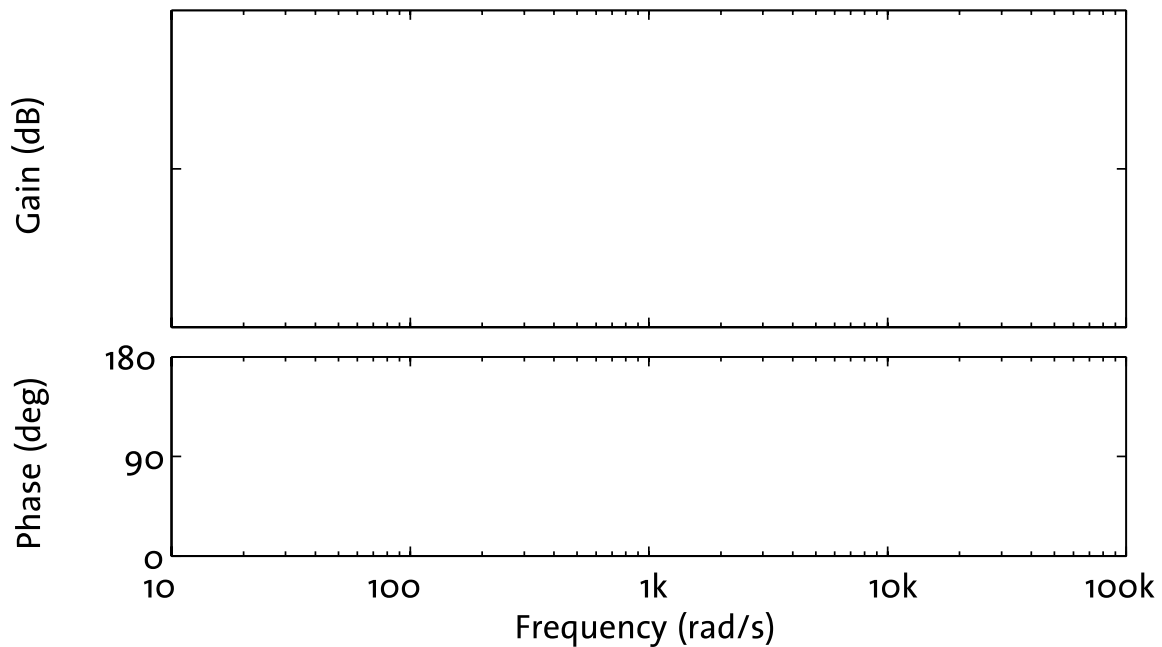

Figure 1.8: Gain and phase response for the integrator circuit shown in Fig. 1.7.
Measure the gain and phase response of your integrator over a handful of frequencies, and record the results in Fig. 1.8. Note that the behaviour of the integrator is uniform for all frequencies, i.e. the trends in gain and phase that you see at one frequency, say 10 krad/s, are equally valid at another frequency, say 100 rad/s.
- Based on Fig. 1.8 and your earlier calculations, derive an expression for the transfer function of your integrator circuit, $H = \frac{v_O}{v_I}$, in terms of R , C , and s , the Laplacian variable. Note that you can use either a voltage-divider analysis, which relies on the voltage at the op-amp's inputs being equal, or a current node analysis, which relies on no current flowing into the op-amp's inputs.